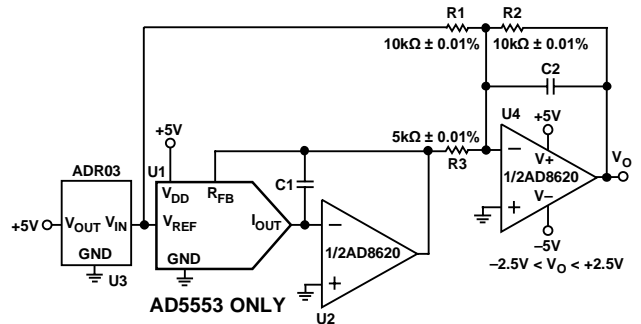

Figure 22. 4-Quadrant Multiplying Application Circuit
In some applications, it may be necessary to generate the full 4-quadrant multiplying capability or a bipolar output swing, which is easily accomplished by using an additional U4 external amplifier configured as a summing amplifier (see Figure 22). In this circuit, the second amplifier, U4, provides a gain of 2 that increases the output span magnitude to 5 V. Biasing the external amplifier with a 2.5 V offset from the reference voltage results in a full 4-quadrant multiplying circuit. The transfer equation of this circuit shows that both negative and positive output voltages are created as the input data (D) is incremented from code zero ($V_{OUT} = -2.5\text{ V}$) to midscale ($V_{OUT} = 0\text{ V}$) to full-scale ($V_{OUT} = +2.5\text{ V}$).